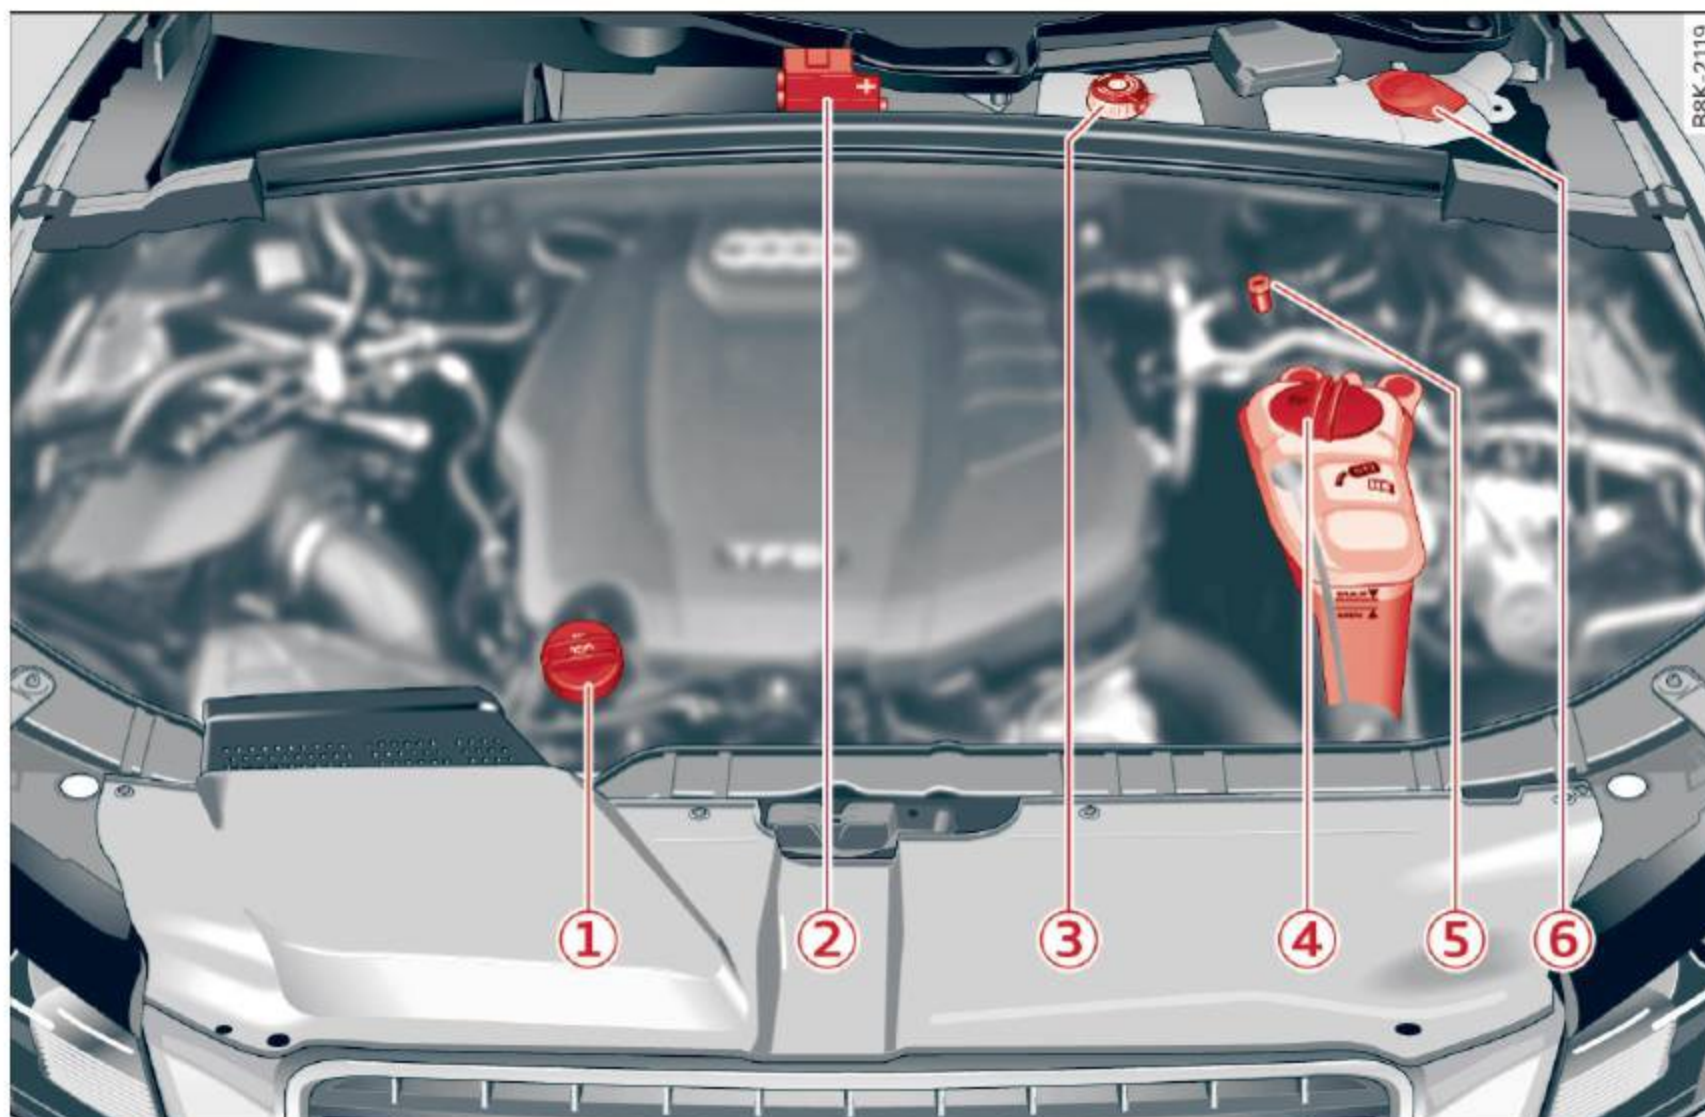

Fig. 182 Typical layout for containers and engine oil filler cap
The position of the engine oil filling hole ⇒ *fig. 182* (item ③) can differ depending on the engine design.
- ▶ Unscrew the cap  to the engine oil filling hole ⇒ *fig. 184*, ⇒ *page 216*, *fig. 182*.